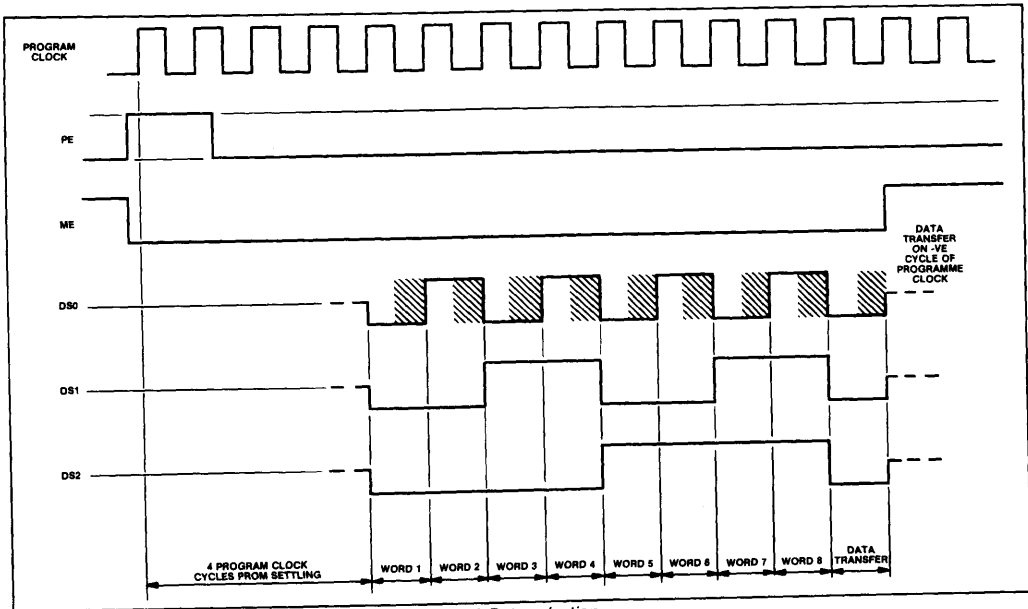
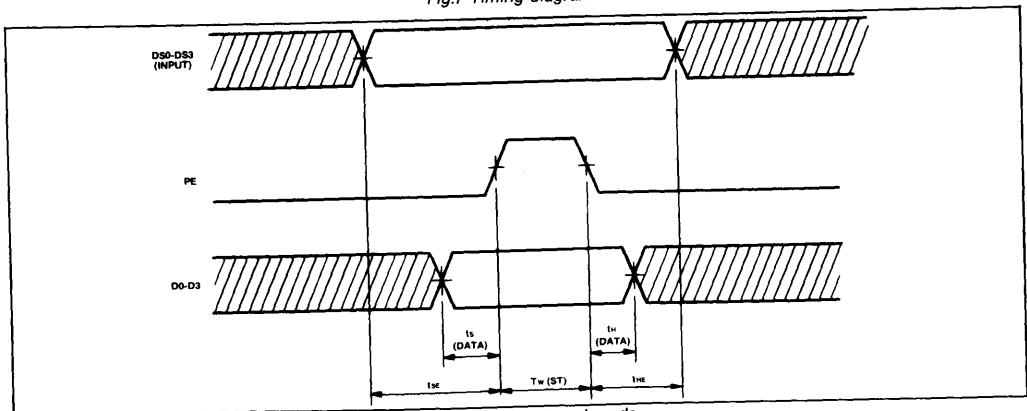

Fig.6 Data selection
Fig.8 Timing for external mode
The external mode of programming is selected by grounding the program pin, (PR). In this mode timing is generated externally, normally from a microprocessor, and allows the user to change the data in selected latches. The data map is again as Fig.6 with the PE pin used as a strobe for the data. Taking the PE pin high will transfer data from the data pins into the selected latch and taking this pin low will disable the data pins, retaining that data on the selected latch. Data transfer from all internal latches into the counters will occur simultaneously with the transfer of data into latch 1 and therefore this would normally be the final latch addressed during each channel change. Timing information for this mode of operation is given in Fig.8.